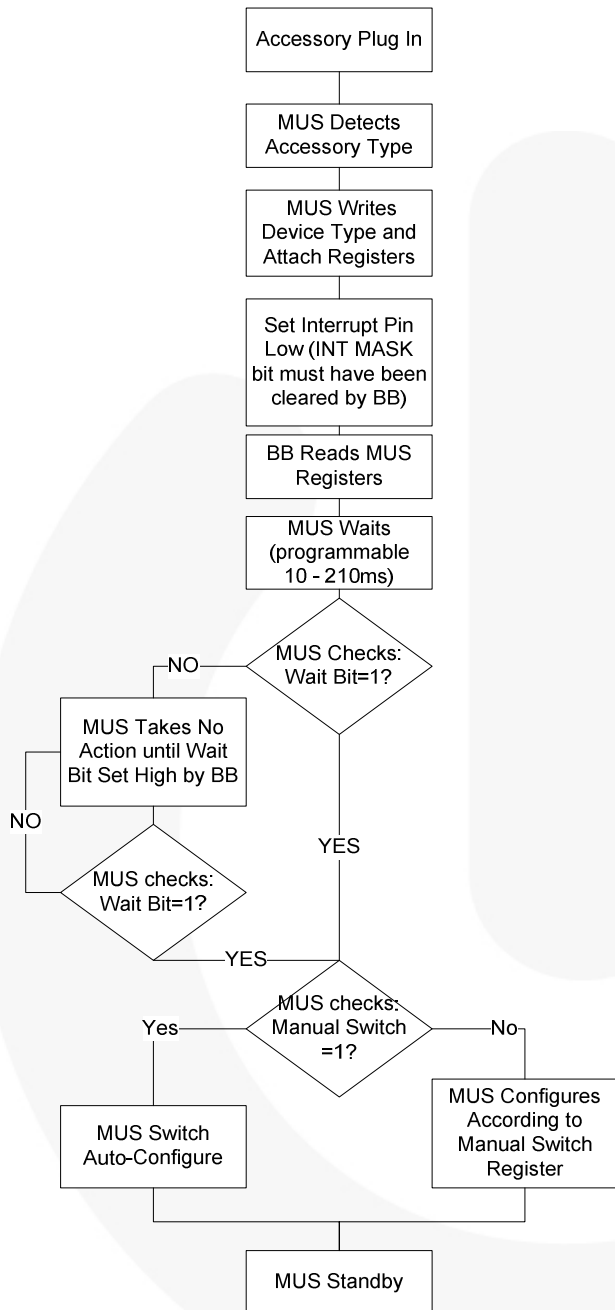
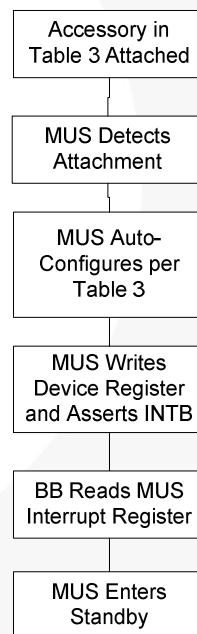

Figure 2. Accessory Detection Flow Chart (Except USB)
Figure 3. USB Detection Flow Chart
This block monitors the ID pin for accessory attach and detach. After determining which accessory has been attached, the detector block reports this back to the digital core, which sends an interrupt to the baseband. Upon detecting changes in the ID pin voltage, the ADC also writes the ADC value bits in the ADC Register. The baseband processor can then read the I²C registers and determine the appropriate action. The programmable wait time does not begin until after the baseband acknowledges the interrupt read. Figure 2 outlines the high-level accessory detection flow sequence for Samsung-specific accessories.
- Figure 2 applies to all accessories except USB; see Figure 3 for the USB accessory detection flow.